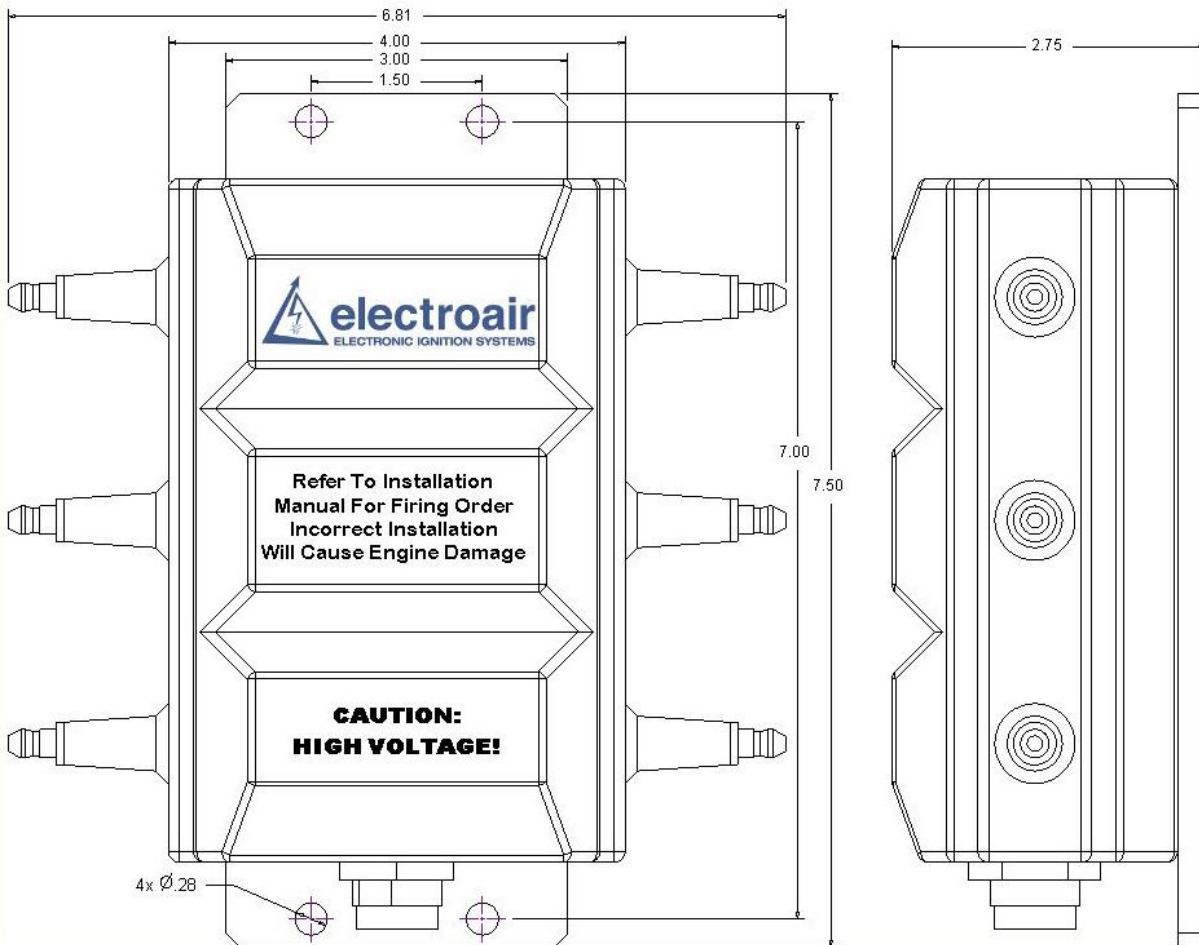

Figure 13: Part Number EA-8000 Dimensions
- c. **EA-8000 Installation:** The Coil Pack is designed to be installed on the engine side of the firewall. Locate the unit in a position to keep the spark plug wires as short as possible and not interfere with other components or create maintenance difficulties in the future. Electroair strongly suggests that the Coil Pack be positioned so that the connector on the coil is facing straight down, but it can be positioned in any orientation that the installation requires. See Figure 13 for the Coil Pack dimensions.